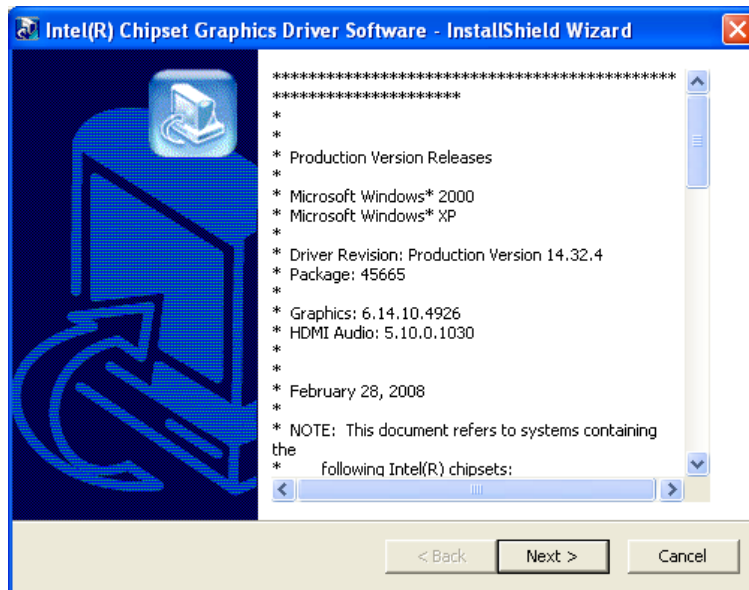

Figure 6-8: VGA Driver Read Me File
Step 2: The VGA Read Me file in **Figure 6-8** appears.